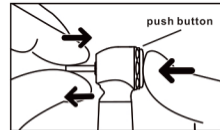

Fig. 6
- 1) Insert the bur until it is correctly seated in place (Fig.6).